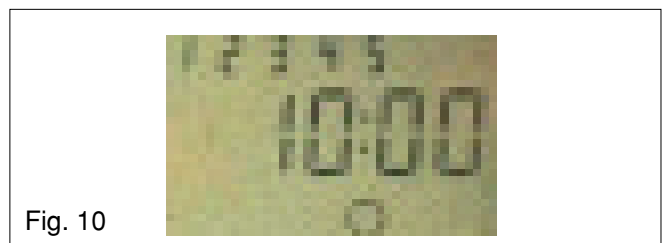

Fig. 10
- Press the Select button until the \odot symbol is shown (see fig. 10).